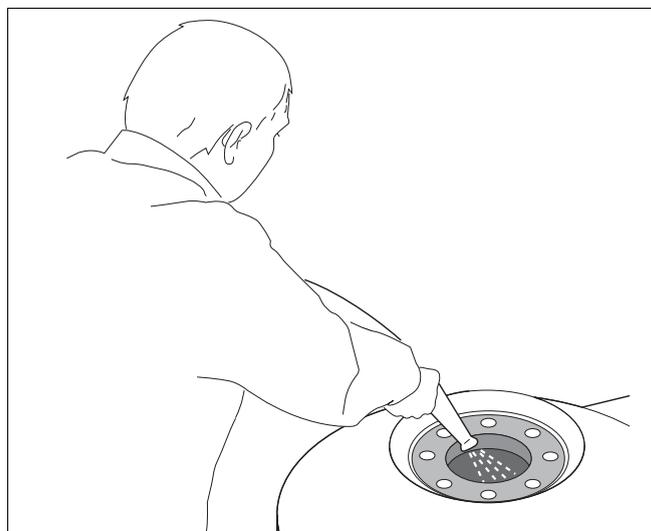

Fig. 14 Hosing down the inside of the DHW tank
- Hose down the interior of the DHW tank with a cold water jet (approx. 58–72 psi pressure) (Fig. 14).